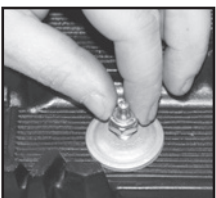

Figure 2
3. Place the standard lock nut provided in the package or Woody’s alternate Big Nut (defined below) over the stud and hand tighten. (figure 2)
2. On the outside of the track place the domed Combo Digger® support plate over the stud with the cup portion of the hollow dome toward the track and hand tighten. (figure 2).